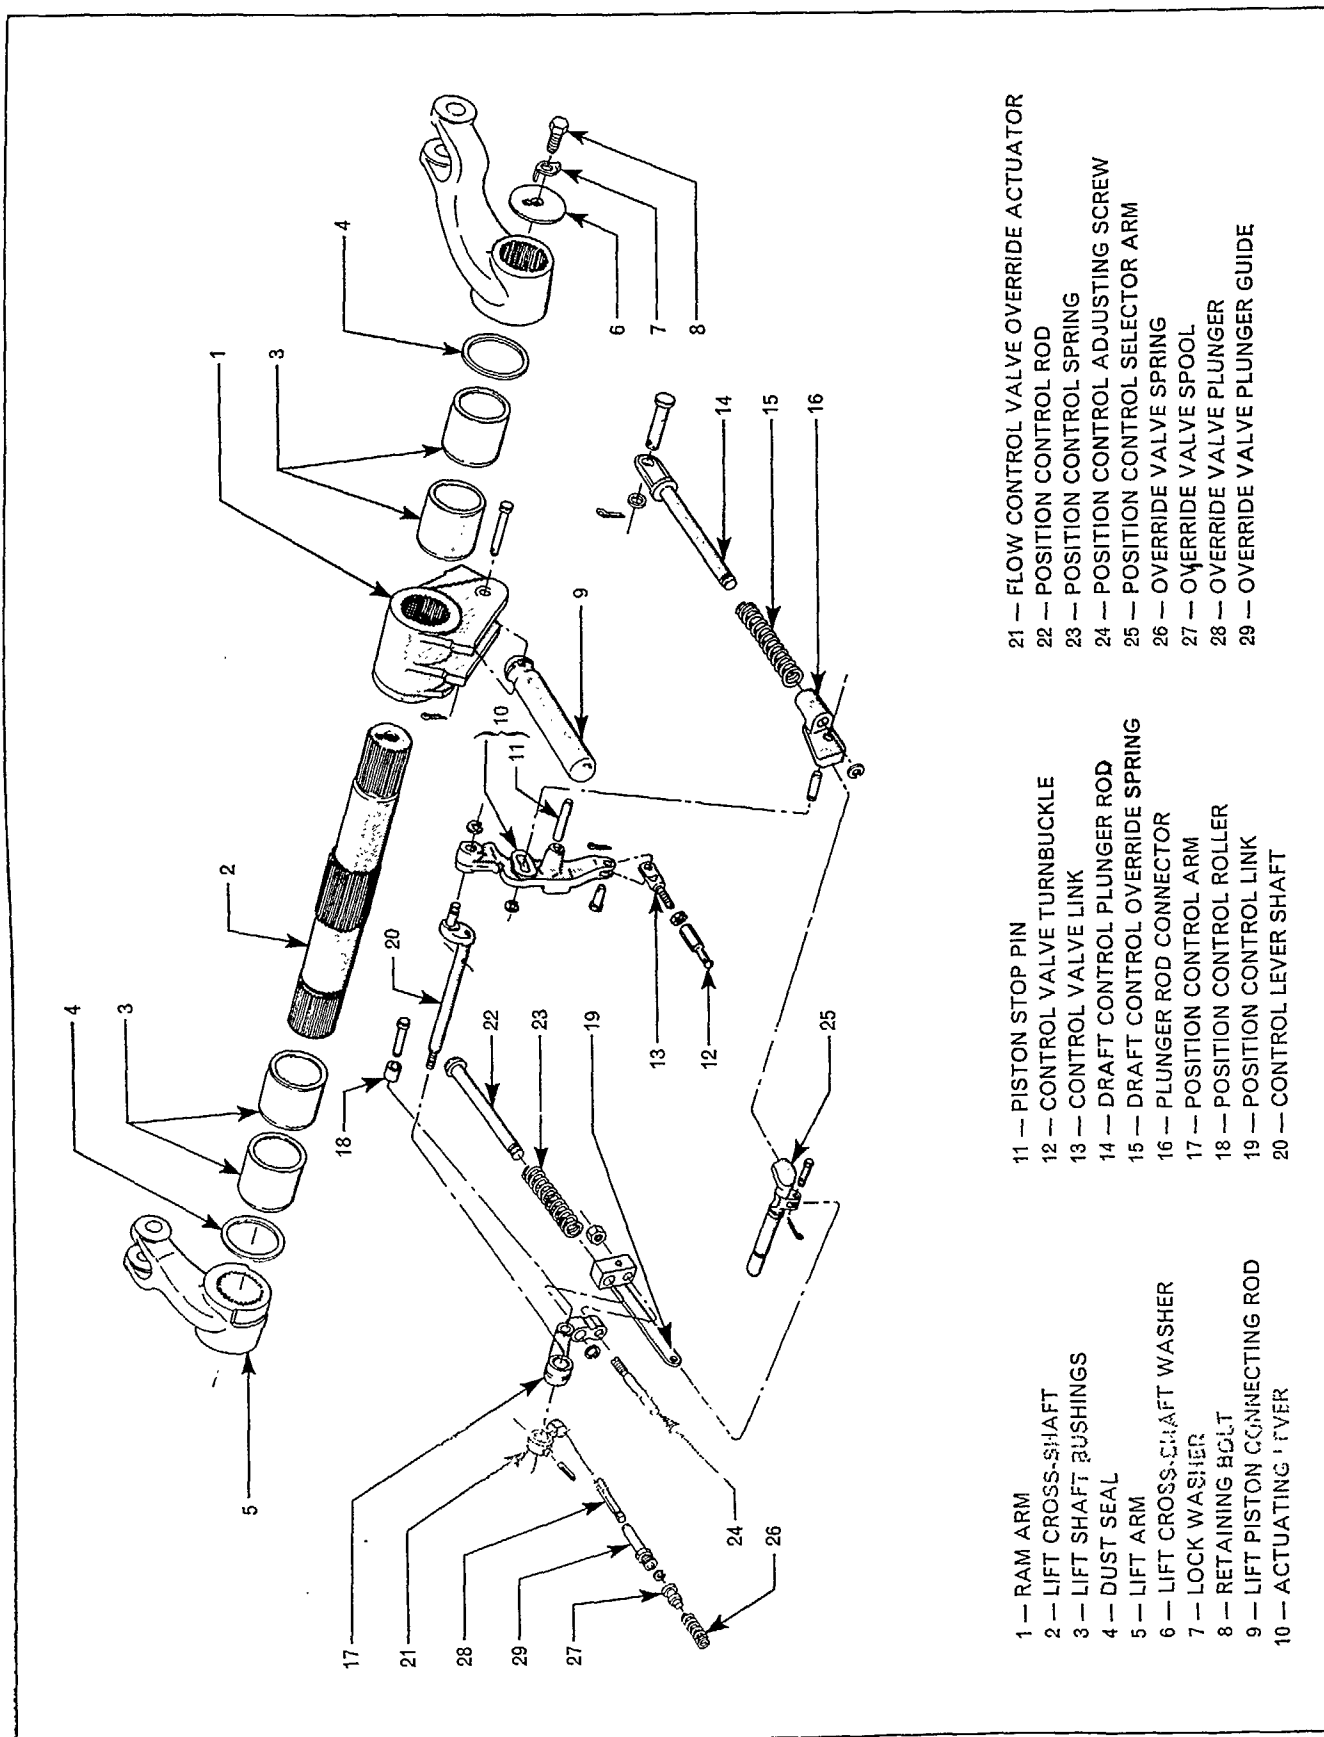

Figure 75
An exploded view of the Lift Cover Assembly is shown in Figure 75.
5. Remove the clevis pin, washer and cotter pin retaining the draft control plunger rod to the draft control plunger, Figure 75. Remove the retaining ring securing the other end of the draft control plunger rod and connector assembly to the actuating lever and lift the assembly clear.